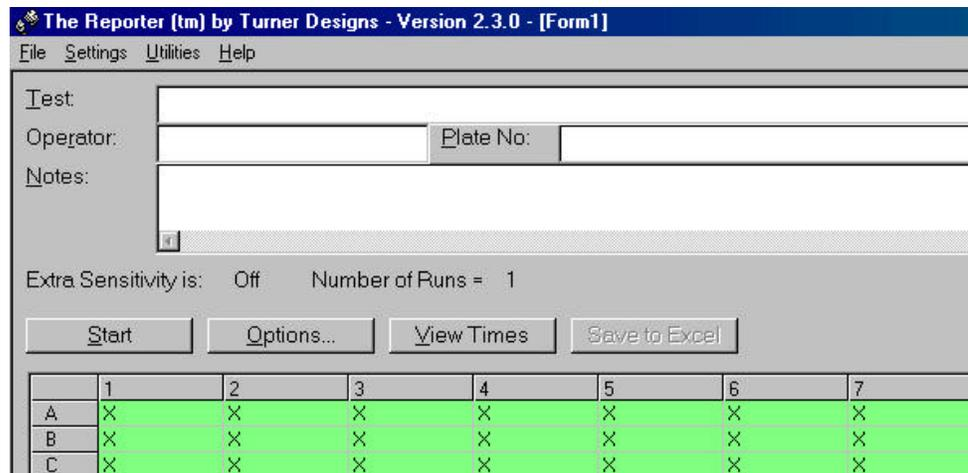

Figure 5.
4. Select New under the File pull-down menu. If an error message appears, such as the one displayed in figure 4, then go back to step 3, but select the next COM port. For most computers, the COM port selection will need to be either COM 1 or COM 2. If no error message appears, and the screen appears like figure 5, then note the COM port selection that worked in your lab notebook for future reference.
Once the communications is properly set up, you are ready to start selecting the options for your measurement. You should see the main screen as shown in figure 5.
6. The main screen will now indicate the options you have selected (see figure 5). It indicates if the extra sensitivity option is on or off and displays the number of runs. The wells to be measured are also highlighted in green.